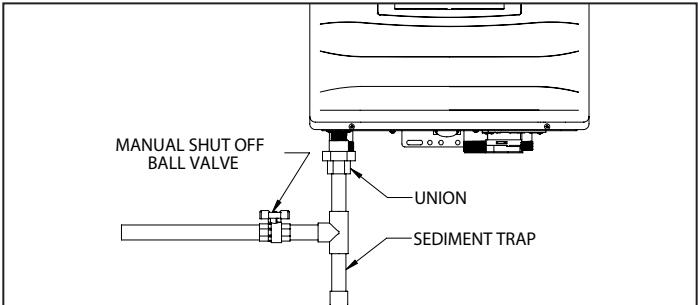

Figure 40 - Gas Line with Shut-Off and Sediment Trap Detail
4. The National Fuel Gas Code (NFPA 54) requires that a sediment trap (drip leg) be installed in the gas line on appliances not so equipped. The drip leg must be accessible, a minimum of 3" in length, and not subject to freezing conditions. See Figure 40.
5. A manual gas shut-off valve should be installed in the gas supply line close to the water heater. See Figure 40 for detail.